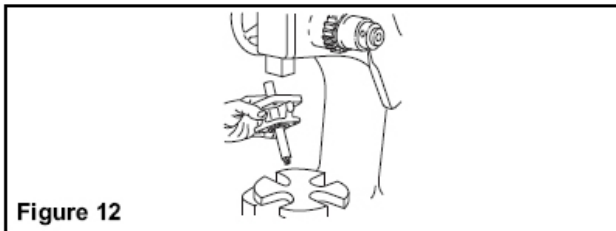

Figure 12
3. Place Body in position on arbor press. Threaded portion of the Shaft should be inside the fixture. Press out Shaft assembly with arbor press (See Figure 12).